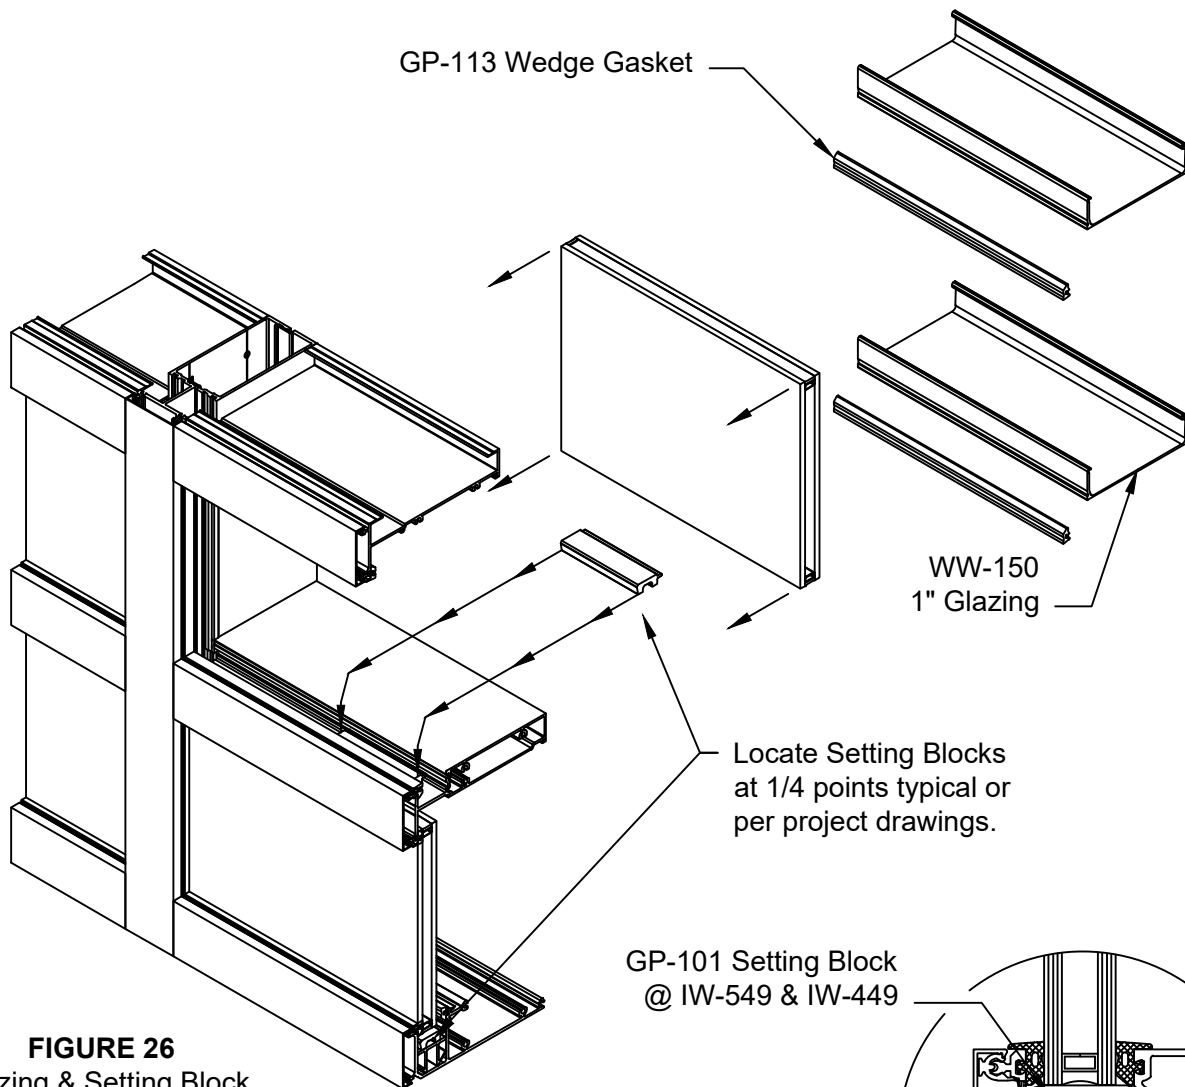

FIGURE 26
Note: Consult glass manufacturer for correct setting block location and length for glass sizes in excess of 40 sq. ft. SEE FIGURE 26.
- 4.3 Set glass in opening from the interior. System should be glazed from bottom to top. Place one edge of the glass into the deep pocket of the vertical. Swing the glass into the adjacent vertical pocket and lower onto setting blocks, ensuring that the glass bite is equal on all sides. SEE FIGURE 26, page 24.